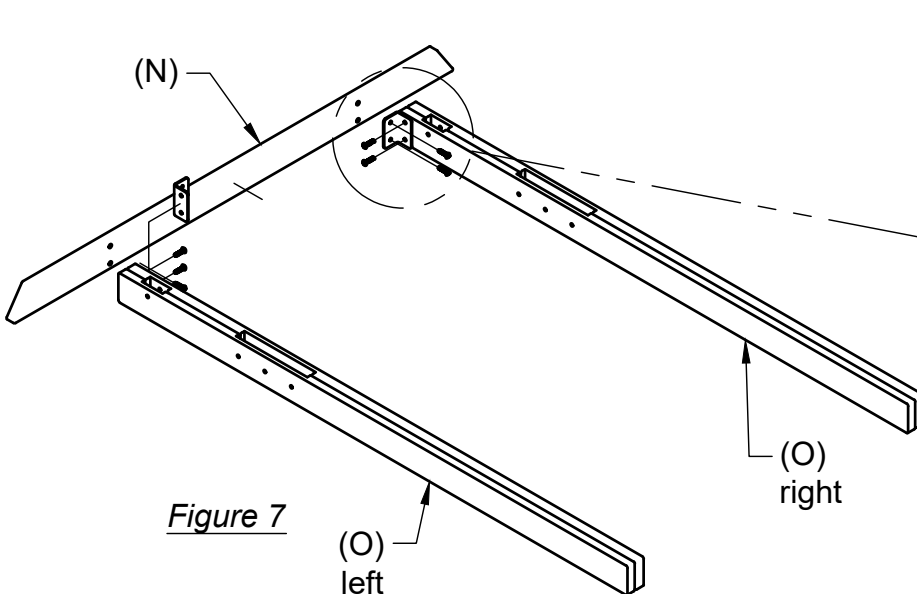

Figure 7
Locate (O) left and right making sure that the pre-drilled holes for (I) corner bracket are on the inside of the assembly. Install (I) corner bracket to the inside of (O) base legs by inserting two of the (D) 1" bolts. Once both sides are installed, align (N) base back support holes with the (I) angled brackets and insert the remaining (D) 1" bolts. (*Figures 7 & 8*)